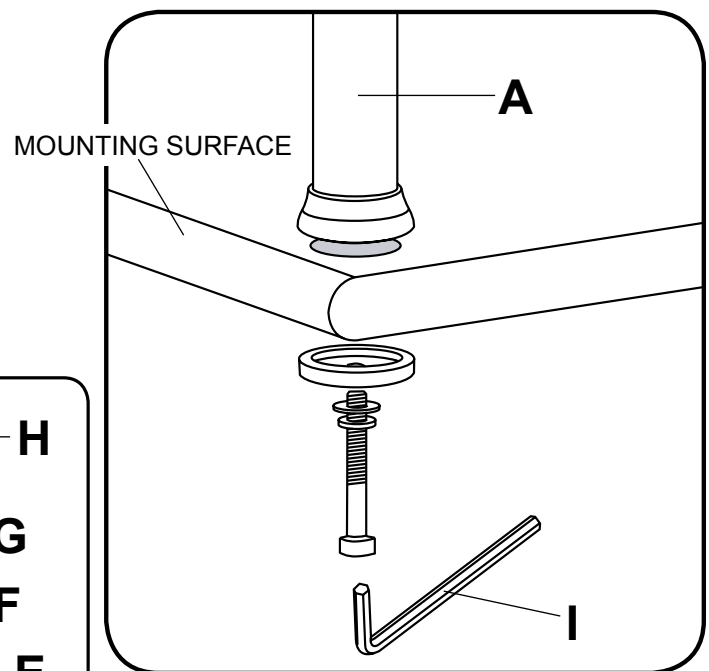

fig. 1.2
- 2** Drill .5" (13 mm) hole into mounting surface. Place pipe assembly (A) onto mounting surface and secure using one bolt (E), one spring washer (F), one flat washer (G), and one bottom washer (H) as shown in figure 1.1. Tighten bolt (E) using 8 mm wrench (I) as shown in figure 1.2.